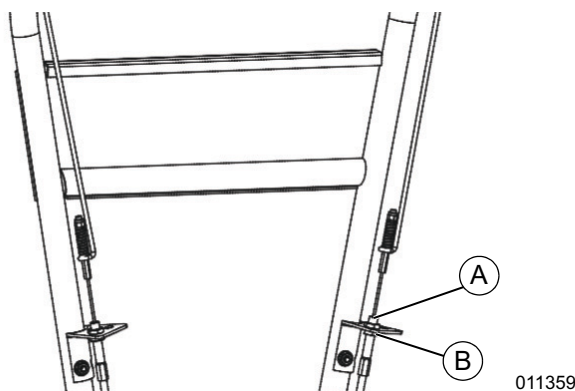

Figure 3-1. Jam Nut Locations
1. See **Figure 3-1**. Loosen upper jam nut (A). Turn jam nut up cable in 1/8 in (3.2 mm) increments.